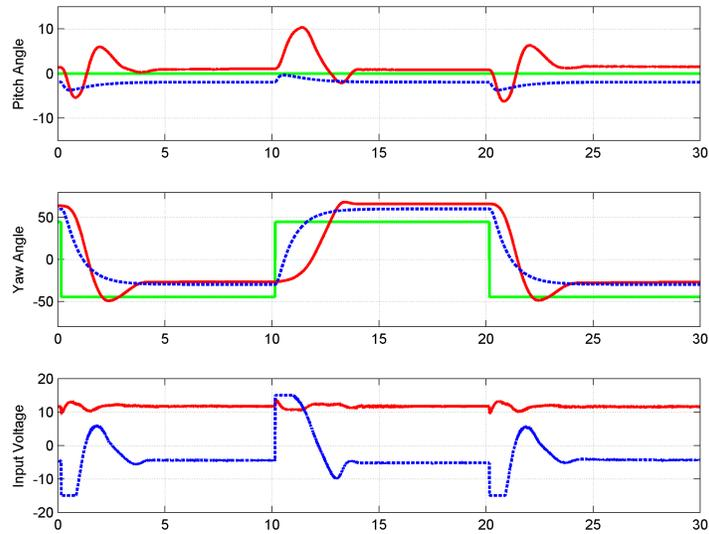

Figure 5.17: Closed-loop LQR response under yaw reference step
16. Figure 5.17 depicts the typical measured and simulated pitch and yaw response given a desired step yaw angle. There is a steady-state error in the yaw angle.